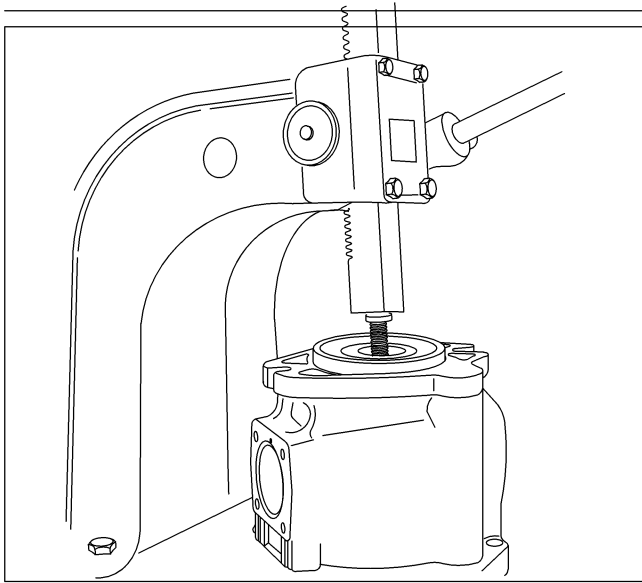

Figure 16. Removal of Front Bearing Race.
18. Remove bearing race (70) from housing (33) as shown in Figure 16. Use special tool shown in Figure 10.